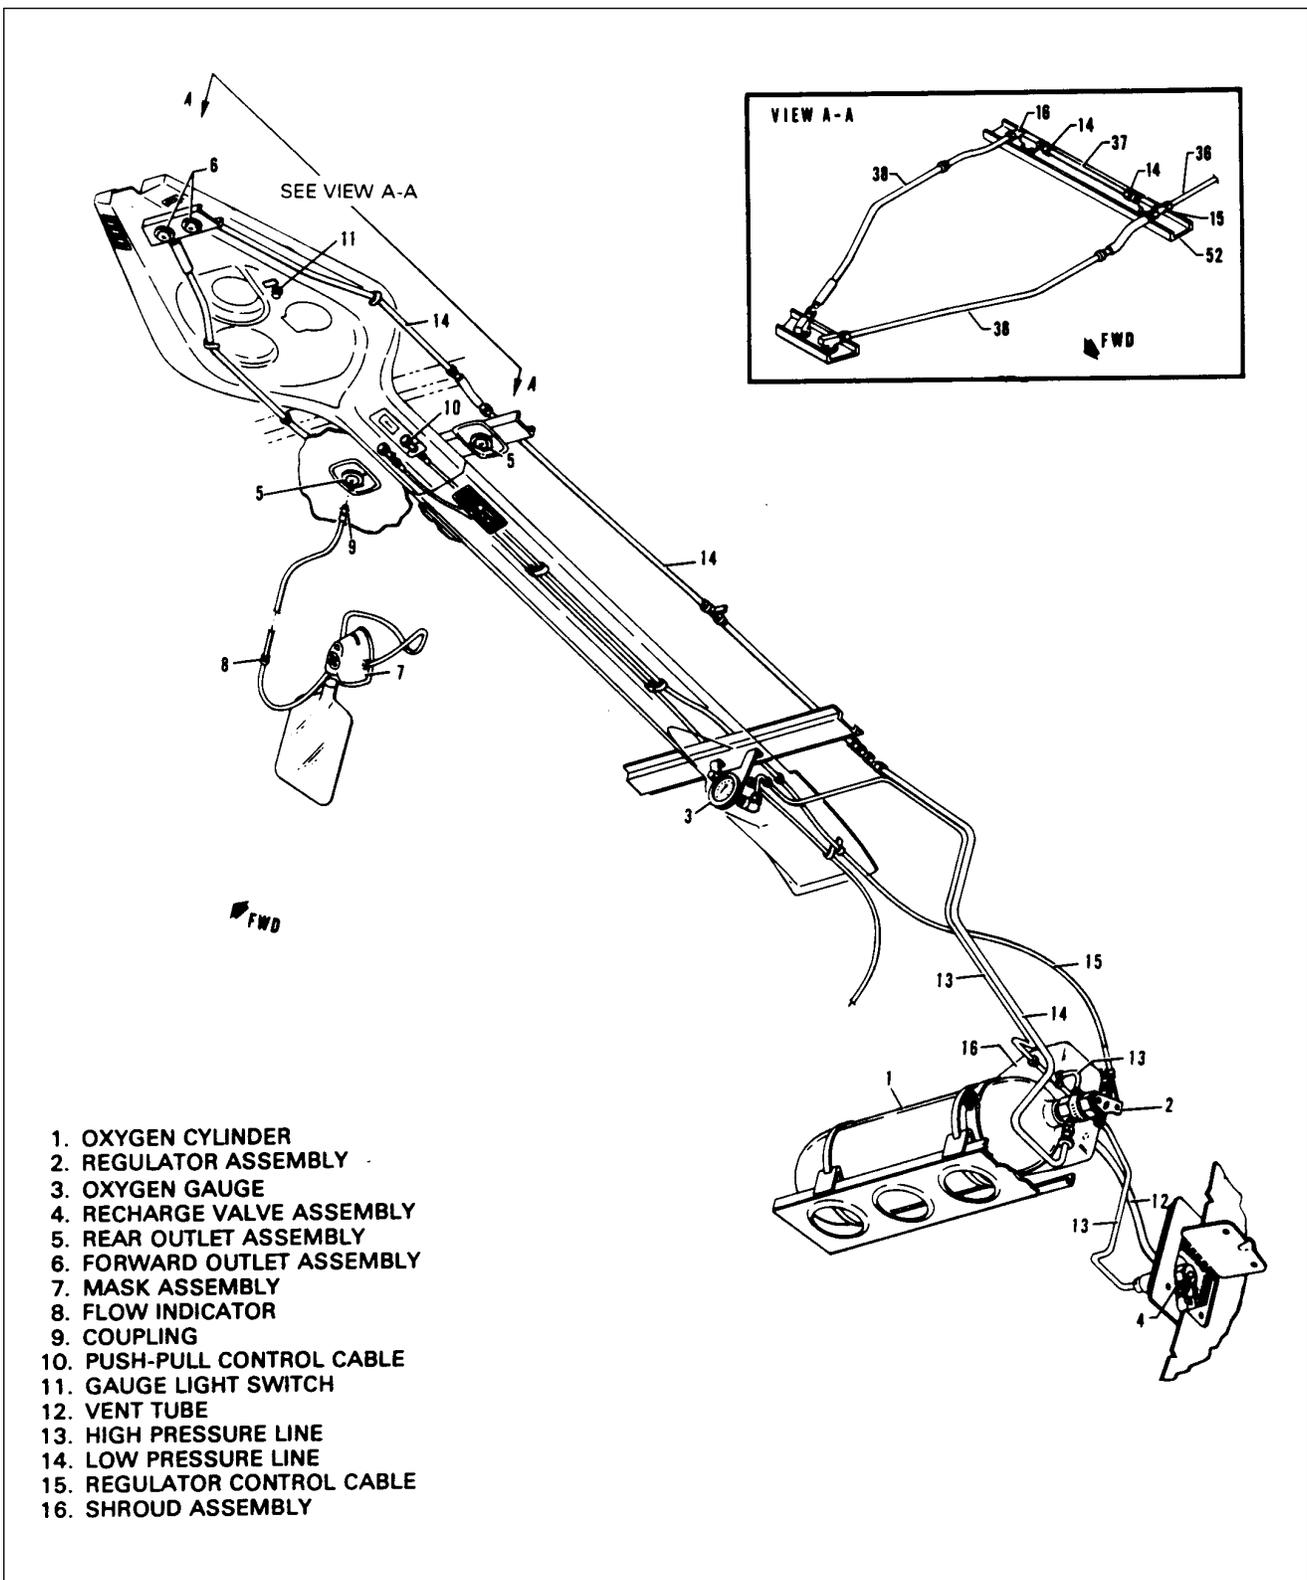

Figure 35-1. Fixed - Oxygen System
**DESCRIPTION AND OPERATION.** (Refer to Figures 35-1 and 35-2.)